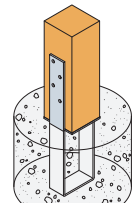

Fig 2: Install timber post
- Once the concrete is sufficiently cured place post centrally onto CBQ base plate and prop in place (Fig 2)